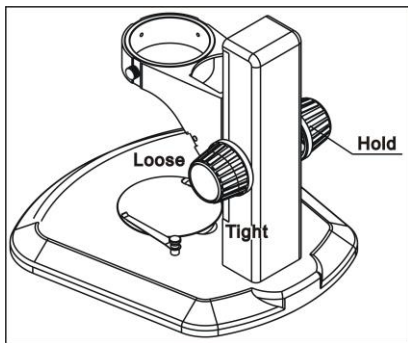

Fig 2
- (1) Hold one side of knob and turn other one to adjust focus tension. Tension is depend on the turning direction of other side of knob. (Fig 2)
- (2) Suitable tension can prevent the focusing arm slipping down during observation and comfortable for adjusting.